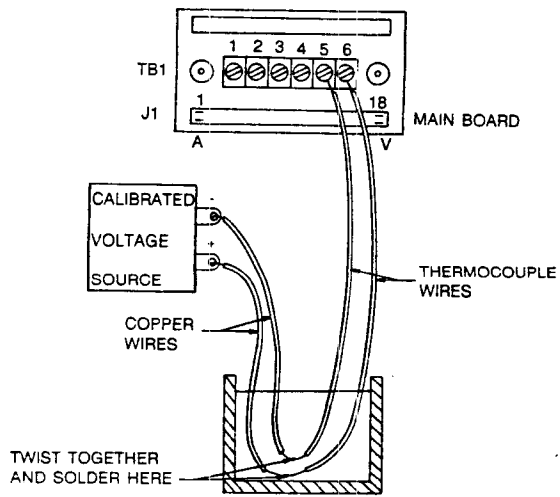

Figure 6-1 Ice Bath Calibration Setup
1. Connect test cables as shown in Figure 6-1.